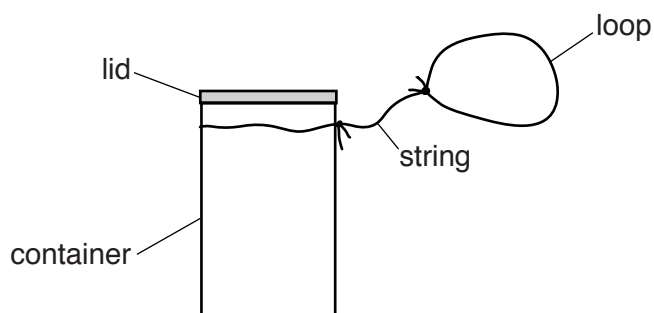

Fig. 2.1
- 1 The small cylindrical container should have string tied around it as shown in Fig. 2.1.